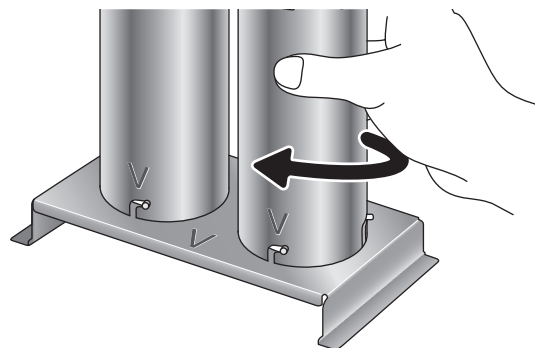

Fig. 8: Installing the reflectors
- Re-install the reflectors, following the position markings ,V' (fig. 8).
Ensure that the ,V'-markings on the reflectors are located on the same side as the ,V' position marking on the grill insert (fig. 8). Otherwise you will not be able to install the grill insert correctly.